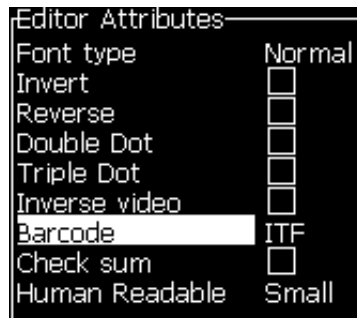

Figure 5-55: Select the Type of Barcode
- 2 Press the *F3* key or *ALT+E* and select *In-line Attributes* to open the *Editor Attributes* screen (see Figure 5-55 on page 5-63).